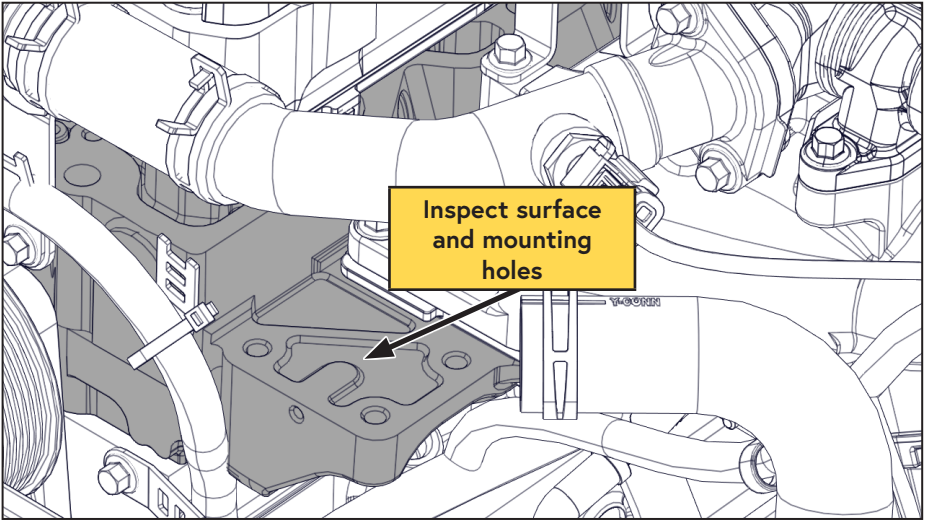

Figure 7 — Compressor bracket mounting surface
- Ensure the mounting surface and (3x) M10 threaded holes are clean and free of debris (Figure 7).